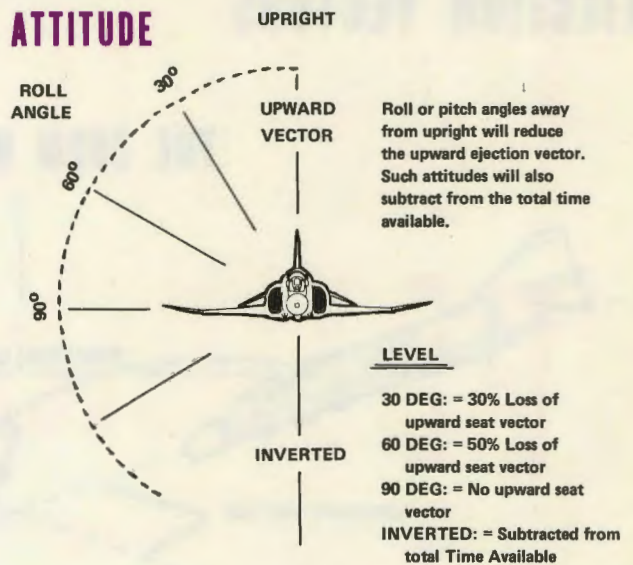

FIGURE 1
**Attitude:** Pure and simple, if we reduce our pitch attitude from level flight, or change from "0" degrees angle of bank, we reduce upward seat vector and thereby subtract from time available. For example: At 30° of bank, 30% of the seat's upward vector is lost, and for 60°, the loss would be 50%. At 90°, there is a total loss of all upward seat vector (Figure 1).